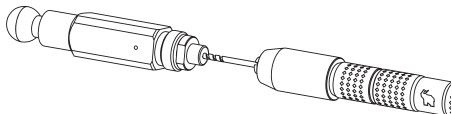

Figure 12: Cleaning the nozzle center hole
- The assembly of the mixture head is shown in Figure 12.